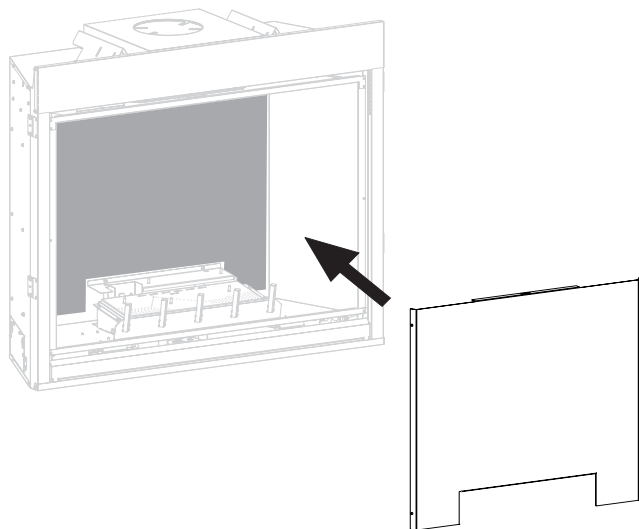

Figure 18
2. Place rear panel on log support in the back of the firebox and hold with one hand. See Figure 18.